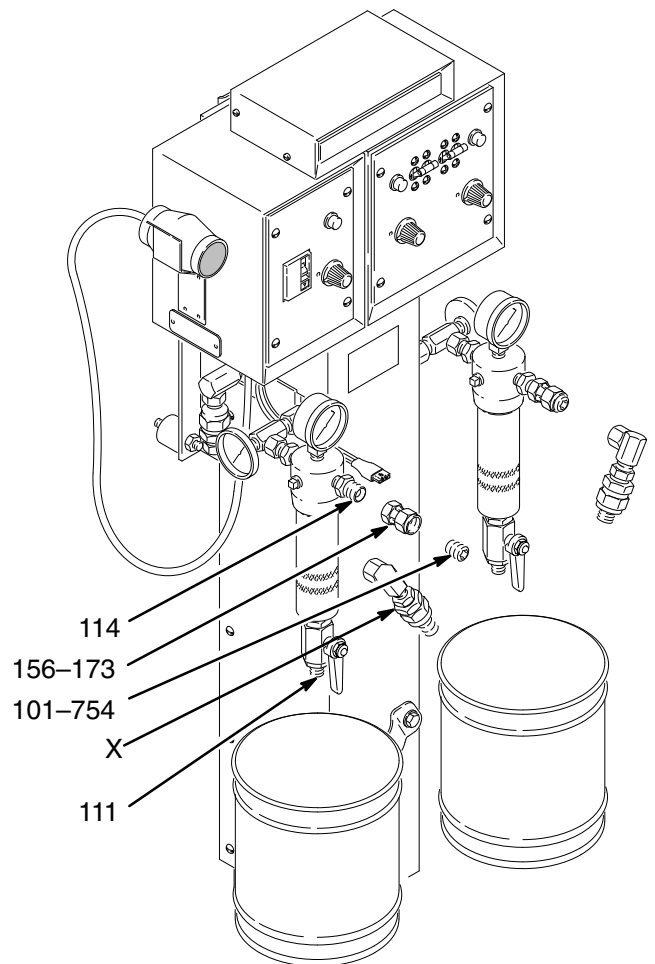

Fig. 4
3. Remove the outlet fittings (X) from both fluid filter outlet nipples (114).
4. Plug each outlet nipple (114) with a swivel (P/N 156–173) and plug (P/N 101–754). These parts are shown exploded on the left side of Fig. 4 and assembled on the right side of Fig. 4.
6. Open the filter drain valve (111). Have a waste container ready to catch the draining solvent.